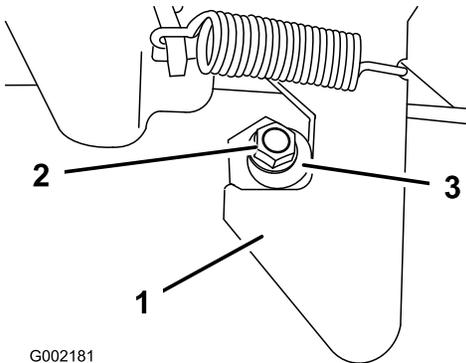

Figure 72
1. Loosen the locknut on the end of the latch post (Figure 72).
2. Rotate the latch post clockwise until it is snug against the hook portion of the latch (Figure 72).